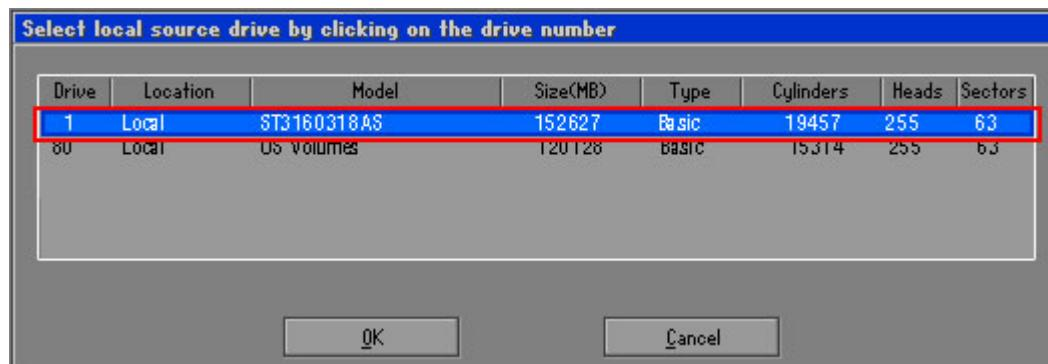

Figure B-14: Select a Local Source Drive
**Step 5:** Select the local source drive (Drive 1) as shown in **Figure B-14**. Then click OK.